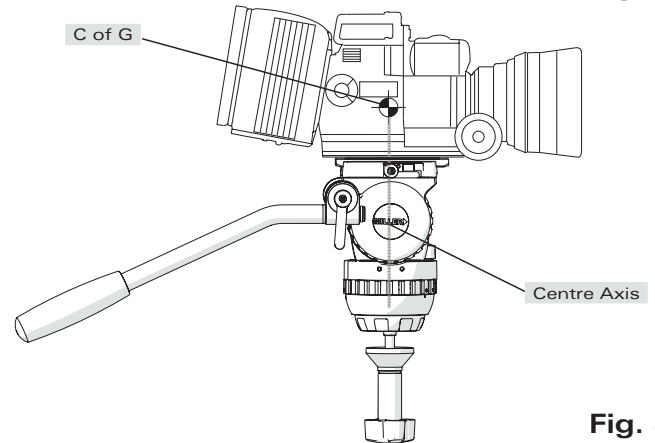

Fig. 3b
- 2.4 Untighten TILT LOCK, slide the CAMERA PLATE such that the camera's C of G is directly above the centre axis of the Fluid Head (fig. 3b), camera should be balanced (if not slide camera backward or forward). Once balanced tighten the SLIDE LOCK LEVER (anti-clockwise)3 and tighten TILT LOCK.